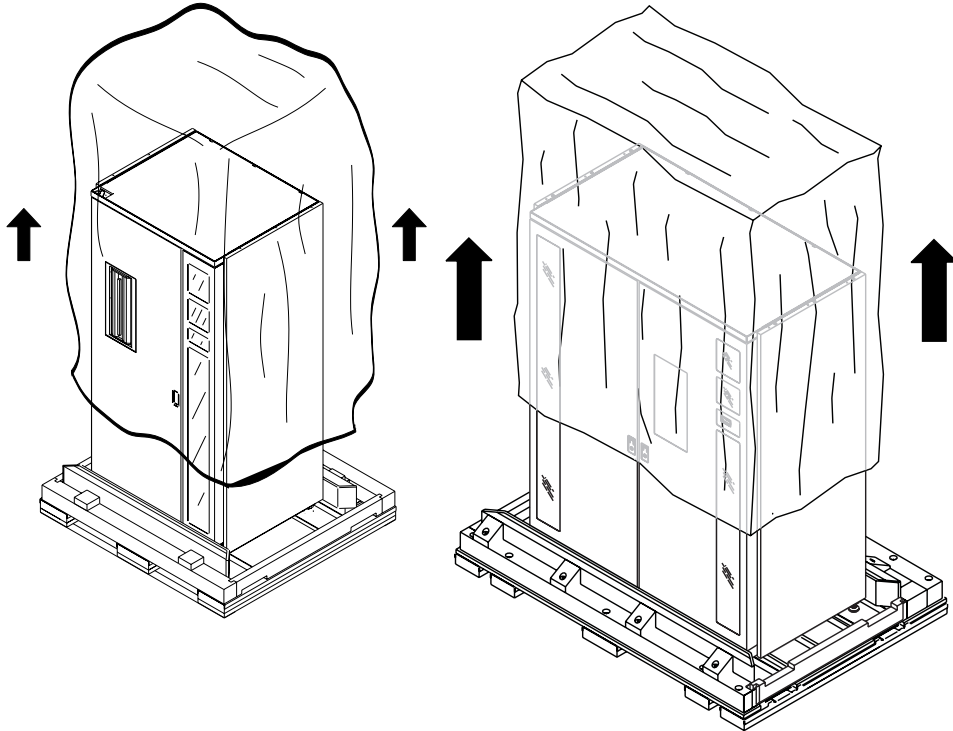

Figure 4-9. Removing the shipping bag
1. Carefully lift the shipping bag off of the library (see Figure 4-9).